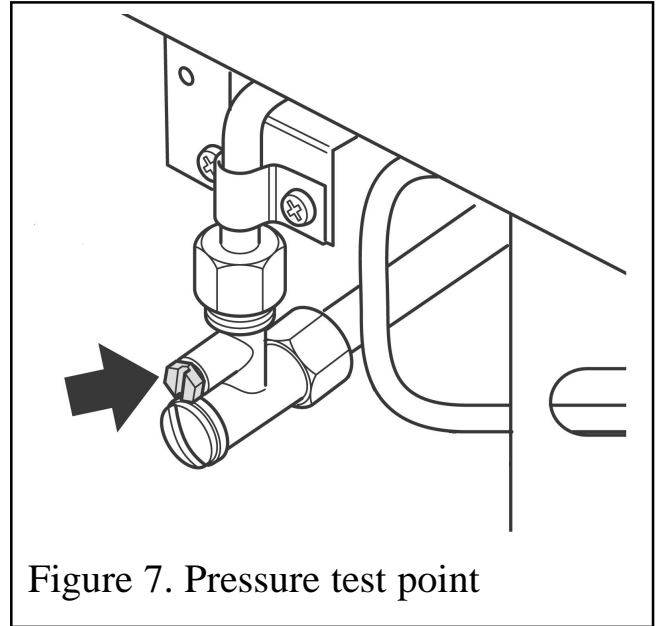

Figure 7. Pressure test point
1. Check the inlet pressure by fitting a pressure gauge at the test point. The test point is on the inlet 'T' connector (See figure 7). Check the pressure with the appliance alight and set at maximum output.